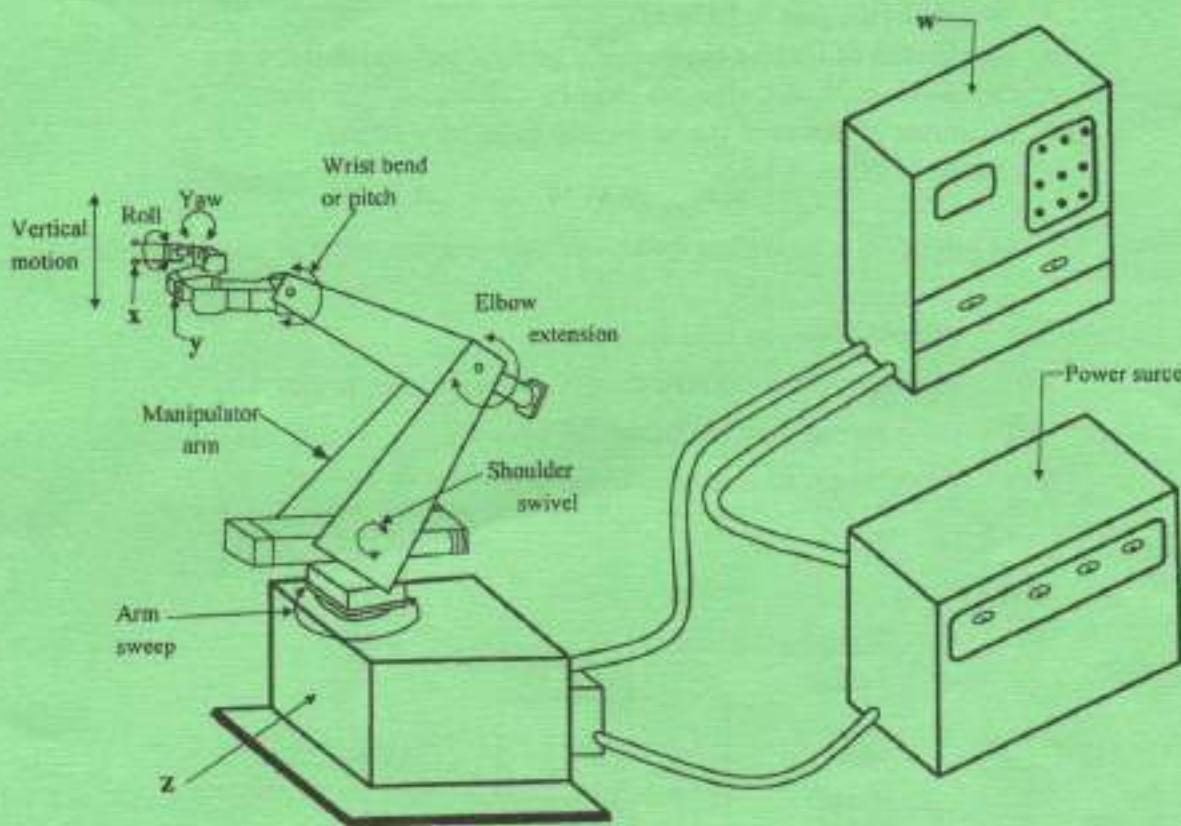

Fig. 4
- (b) Figure 4 shows a diagram of a robot arm. Identify the parts labelled W, X, Y and Z.